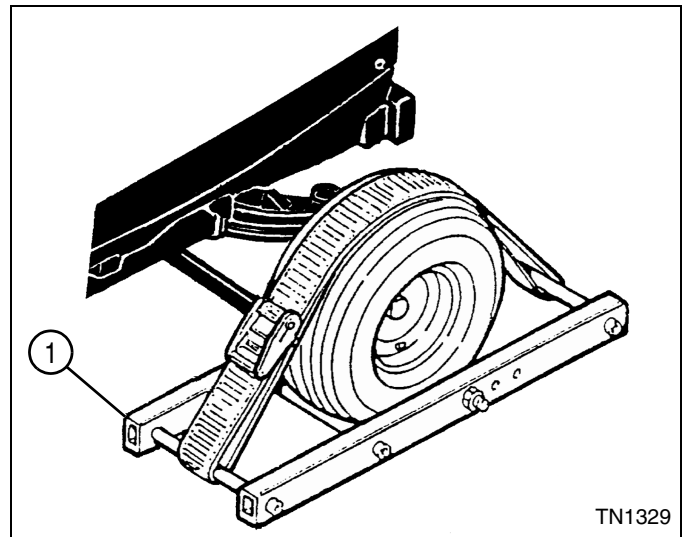

Figure 5-8
See Figure 5-8.
6. Install wheel restraints. See Figure 5-8.